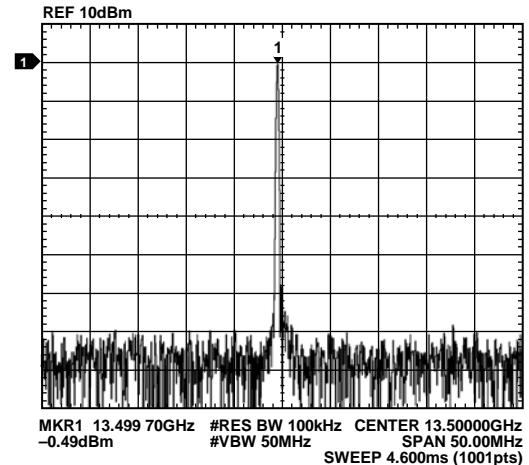

Figure 3. RF Output Frequency at $V_{TUNE} = 6$ V
8. Verify that the output frequency observed on the spectrum analyzer is in the region of the expected frequency corresponding to the V_{TUNE} voltage applied by referring to the output frequency (f_{OUT}) vs. V_{TUNE} plot in the ADF5709 data sheet. An example output frequency is shown in Figure 3 in the Evaluation and Test section.
1. Enable the variable power supply and adjust the tuning voltage to 6 V. A signal at approximately 13.5 GHz with between -2 dBm and 0 dBm of output power appears on a spectrum analyzer or signal source analyzer. This result is shown in Figure 3.